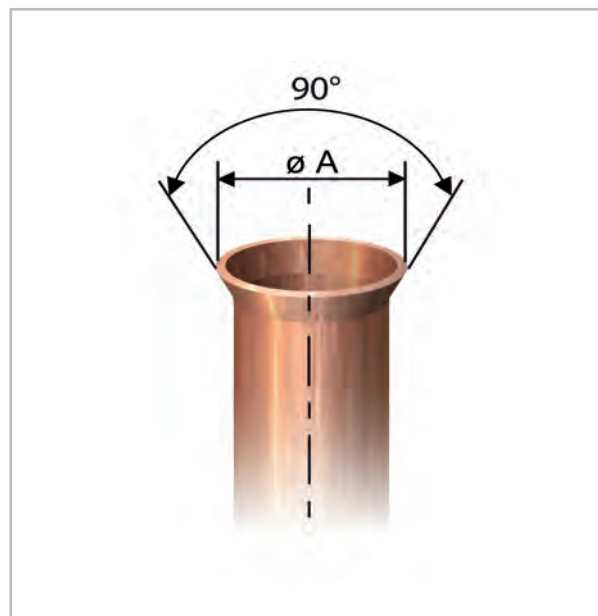

Fig. 20: Correct flange shape
9. ➤ Verify that the shape of the flange is correct (Fig. 20).